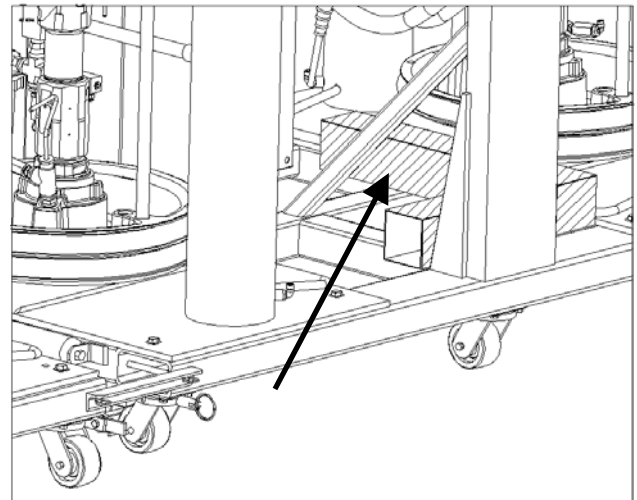

Fig. 7
1. Locate I/O cable located inside wire-way located on DC12 frame. The cables are labeled A2 and B2. Refer to **Fig. 7**.